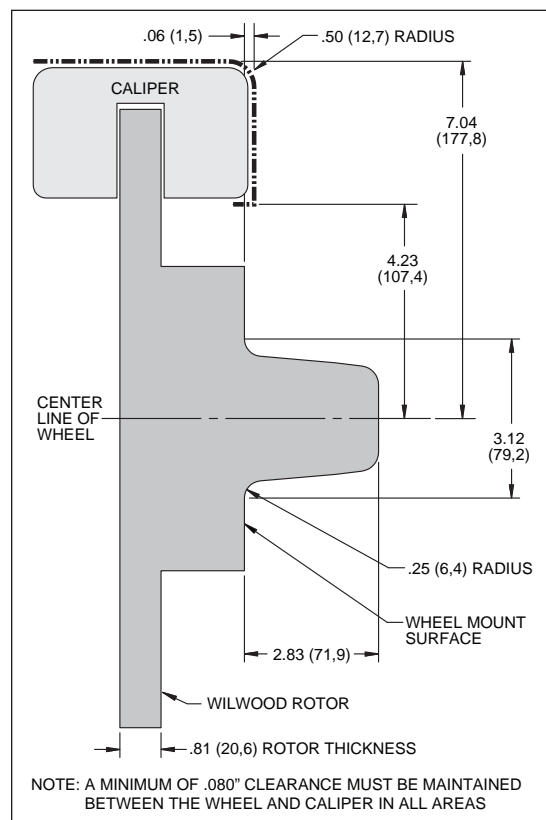

Figure 2. Wheel Clearance Diagram
- Review the Wheel Clearance Diagram (Figure 2, page 3) to verify that there is adequate clearance with the wheels you will be using with the installation.
- Verify wheel clearance utilizing Figure 2.
- Verify the new hub stud pattern in this kit matches the lug pattern of the vehicles wheels. It is important that the center hole clearance be 3.13" or larger to clear hub snout in the kit, Figure 2.